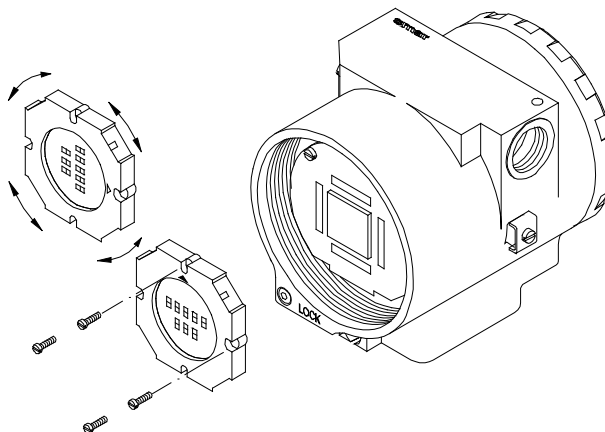

Figure 5.2 – Four Possible Positions of the Display
Plug sensor connector and power supply connector to main board. If there is a display, attach it to the main board by means of 4 screws (3). The display can be installed in any of the 4 possible positions(See Figure 5.2).